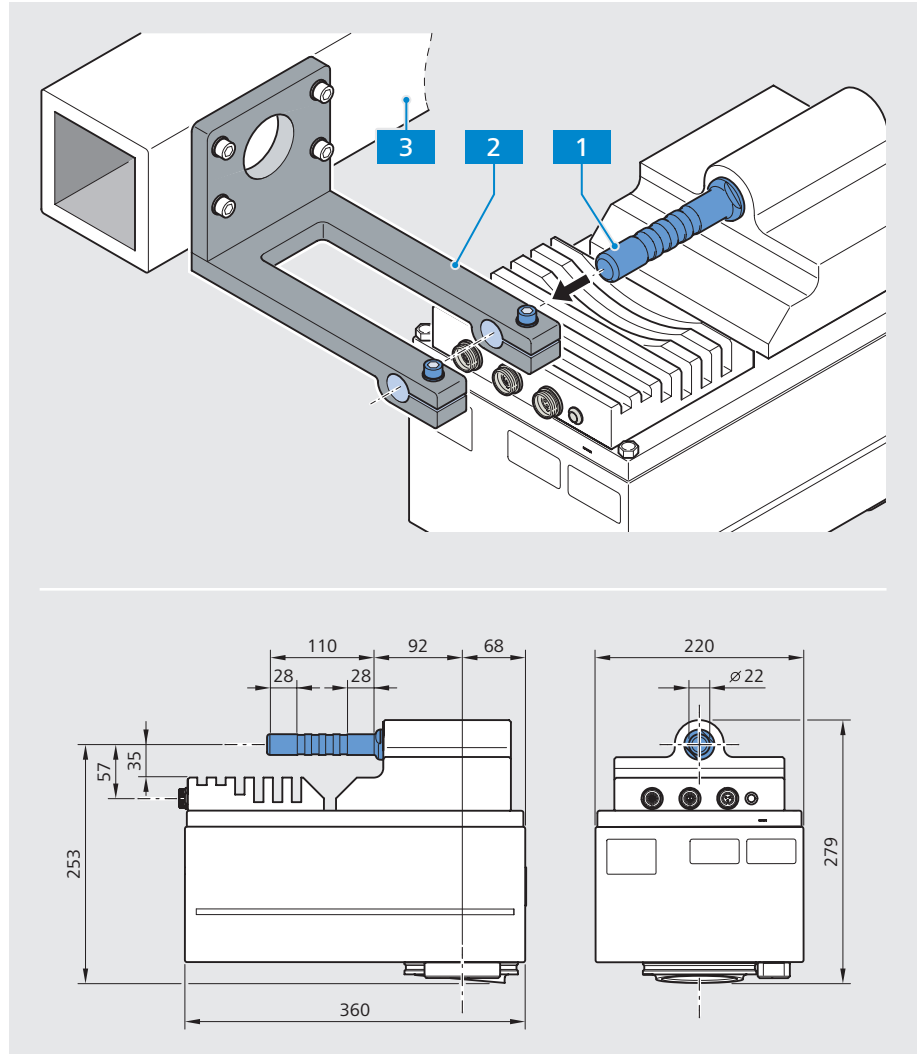
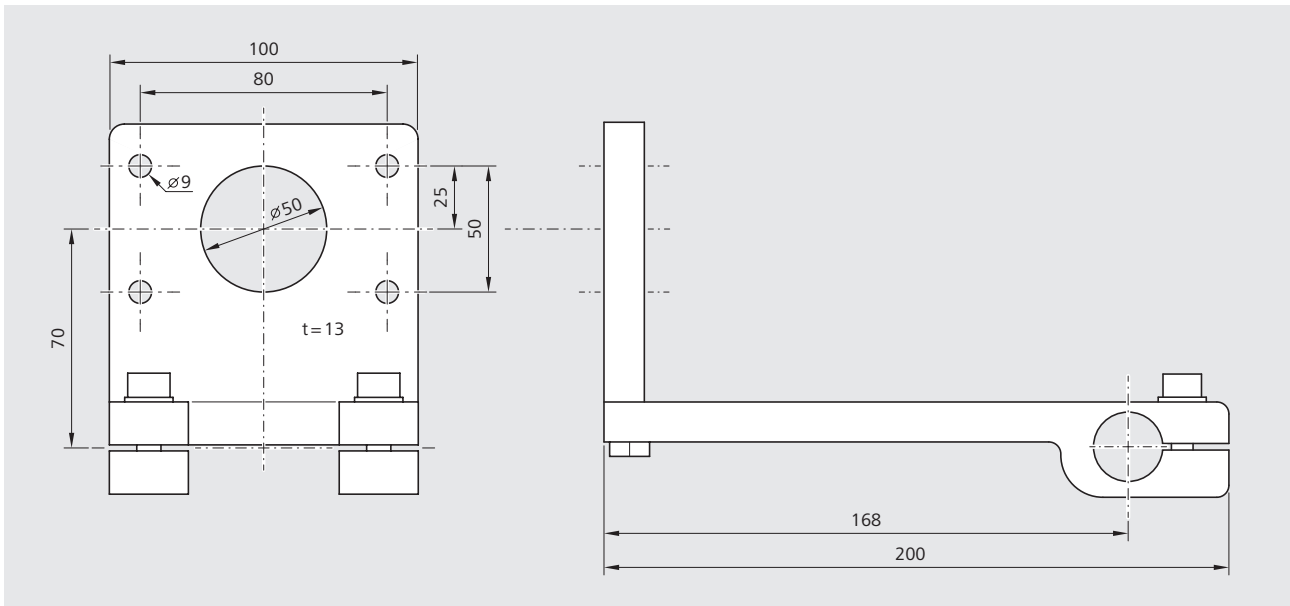

Fig. 1 Mechanical interfaces of the Corona process
Fig. 2 Dimensions of the optional mounting device
- 3 Ensure that the customer's mechanical interface has the appropriate dimensions for mounting the **Corona process** (see also Fig. 1 and Fig. 2).
**2** Optional mounting device (see Fig. 2 on the following page) –